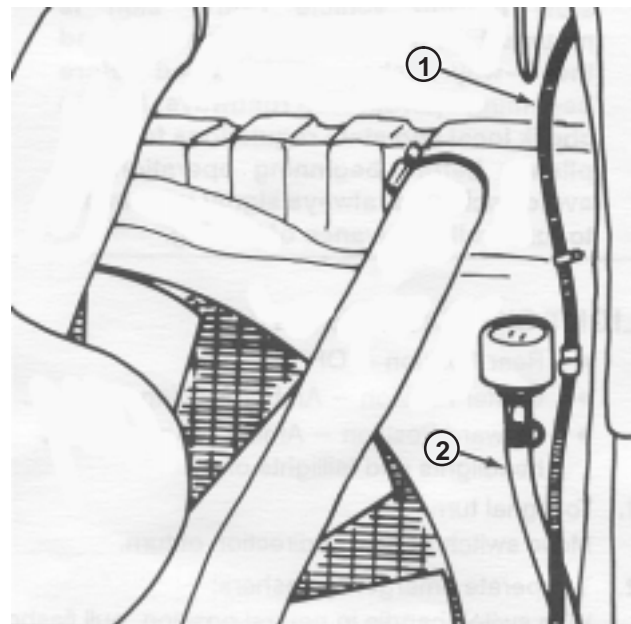

Figure 16
2. On engine side of cowl, route harness up the right side of the radiator and through the 1” hole at the top of the cowl (Fig. 16).